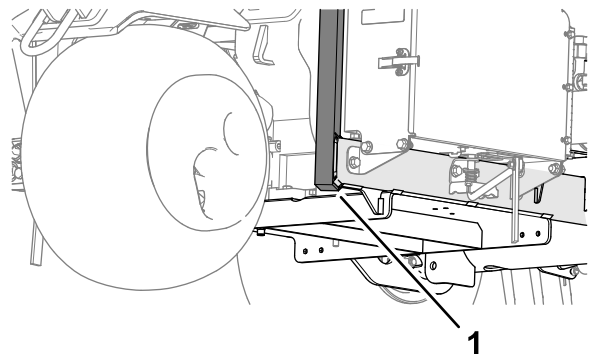

Figure 127
3. Position the jack securely under the front wheel-support arm (Figure 127).